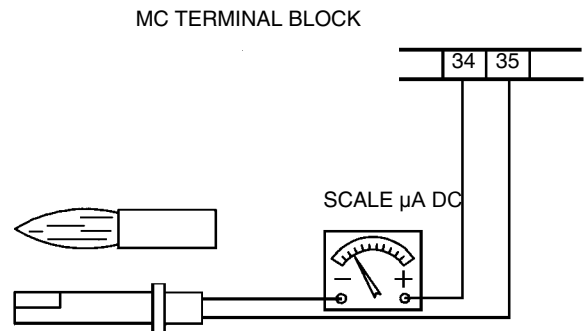

Fig. 25
- check and carefully clean the flame detection photoresistor, if necessary replace it and, if in doubt, check the detection current following the scheme in Fig. 25;
- 4 loose screw (B) that fasten the ignition electrodes;
- 5 remove the electrodes and replace them, referring to the values quoted on Fig. 24-Fig. 25;
To measure the detection signal follow the diagram in Fig. 25.